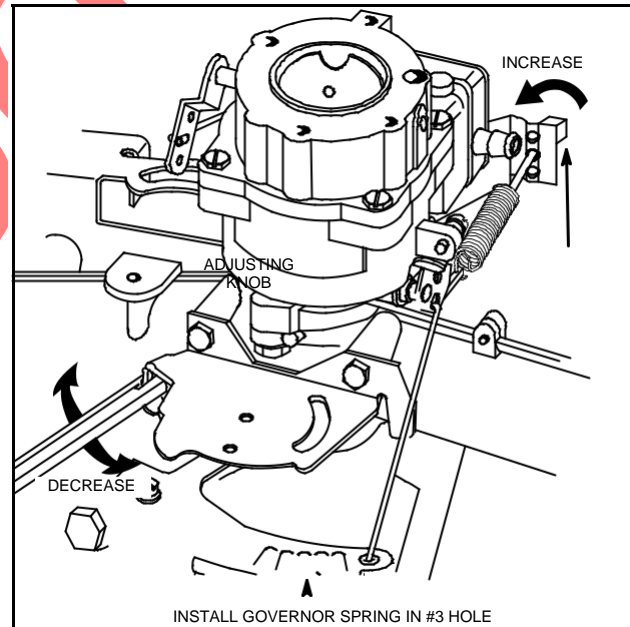

Fig. 43 – Adjust High Speed
4. Start engine and bend governed idle tang to obtain 1875 RPM, No-Load, Fig. 43.
6. Reinstall main governor spring in #3 governor lever hole, Fig. 43.